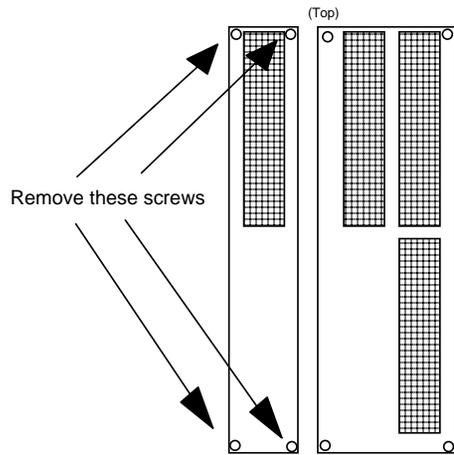

Figure C-2. EPC-7/EPC7-AM Orientation.
- ÿ If you are installing a full size add-in card (long card), you will need to temporarily remove the rear panel of the EPC7-AM. Remove the 4 screws shown in Figure C-2 below.